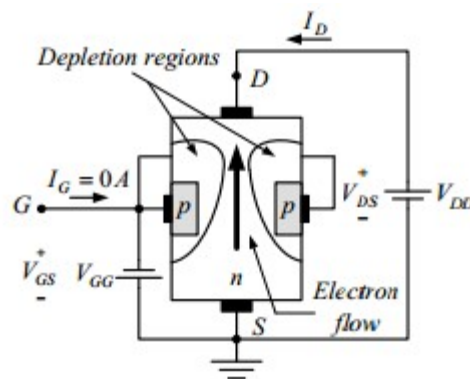

Fig. 15-2
- Bias voltages are shown, in Fig. 15-2, applied to an n-channel JFET device.